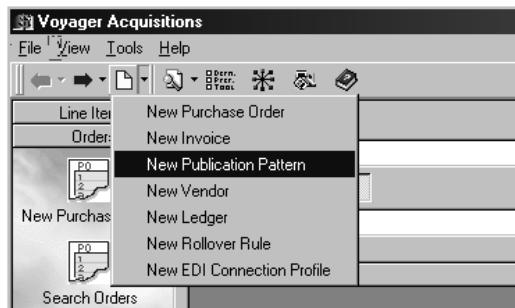

Figure 8-39. New Item button selected on the toolbar - list displayed
- Select **Check-In** from the **View** menu and then select **New Publication Pattern** from the cascading menu (see Figure 8-39).